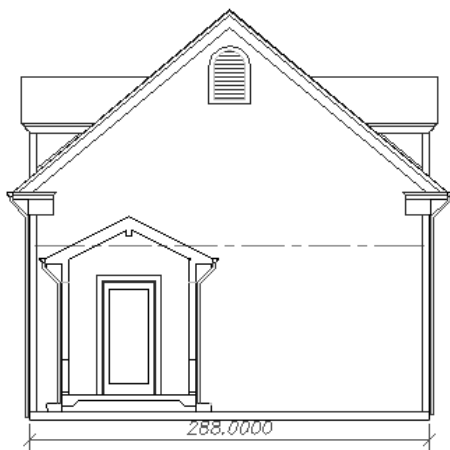

**Figure 15-23:** As a result of changing the overall scale, you can finally see the dimension.
8. Save your drawing. You can finally see the dimension! It should look like Figure 15-23. Keep this drawing open if you're continuing on to the next exercise.